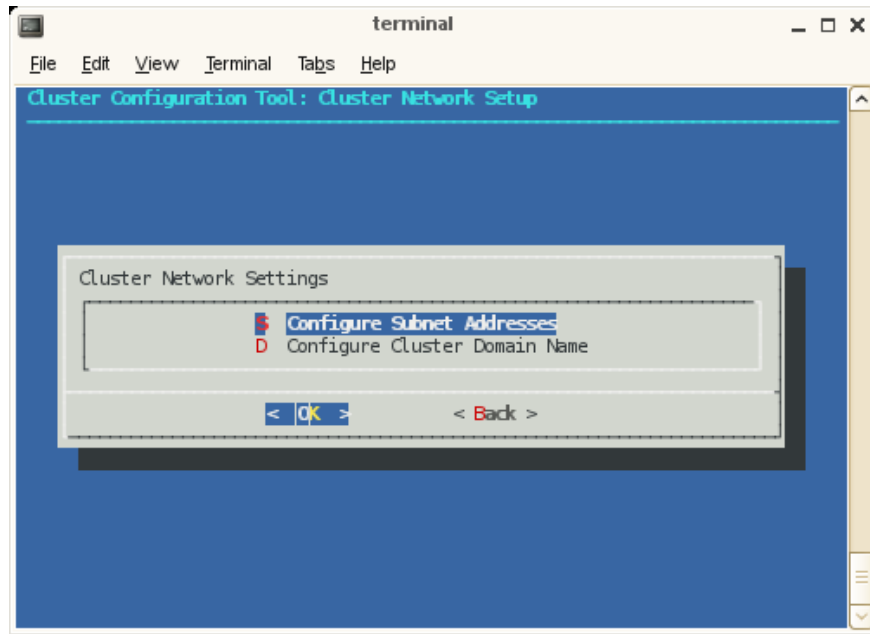

Figure 2-17 Cluster Network Setup Screen
10. After choosing the **Network Settings** option, the **Cluster Network Setup** screen appears, as shown in Figure 2-17 on page 56.